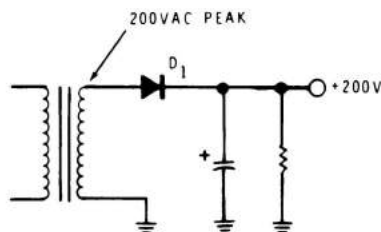

Figure 4-23
4. What is the minimum PIV rating for D_1 in Figure 4-23? _____
4. Since Figure 4-23 has a capacitive filter, the PIV is twice the peak secondary voltage: $200 \text{ V} \times 2 = 400 \text{ V}$.